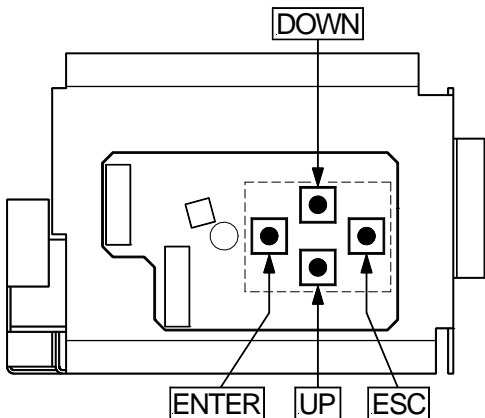

FIGURE 4 – 3
Step 4.2.1 Use **Figure 4 - 3** below in conjunction with Steps 4.2.2 to 4.2.6 on pages 24 to 26 for detailed instructions.
Step 4.2.2 The following instructions will explain how to set the zoom. Refer to **Figure 4 - 2** for “use” keys.